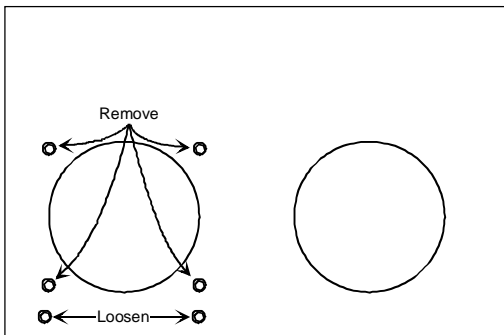

Figure 4
2. From the rear of the unit, remove the four screws securing the blower assembly in place and loosen the two screws directly below the duct opening (Figure 4).